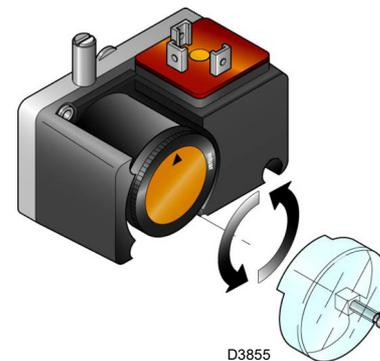

Fig. 32
- Adjust the pressure switch for the valve leak detection control device (PVP kit)(Fig. 32 at page 32), if present, according to the instructions supplied with the kit itself.
Adjust the pressure switch for the valve leak detection control device (PVP Kit)(Fig. 32), if present, according to the instructions supplied with the Kit itself.